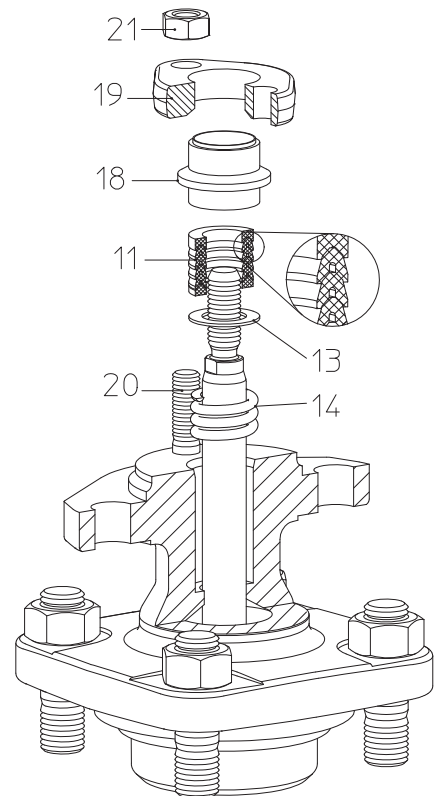

Fig. 9: V-ring unit
- When replacing PTFE V-ring unit (pos. 11), make sure that the parts are installed in the correct order and positions (refer to Fig. 9).